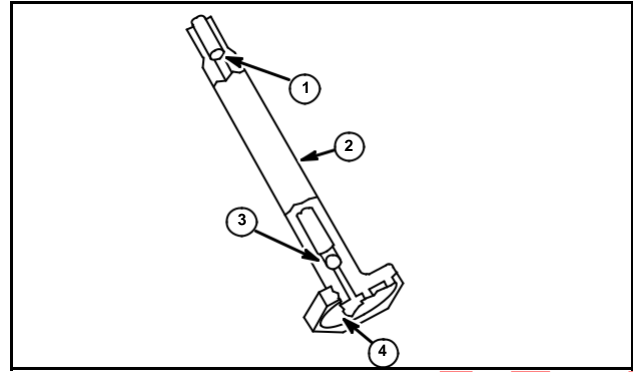

Fig. 26
NOTE: Vacu-Jet carburetors have a metal ferrule (1) and check ball (3) in nylon fuel pick-up tube (2). To function properly, screen (4) must be clean and check ball free. Replace tube if screen is clogged or check ball is not free, Fig. 26.